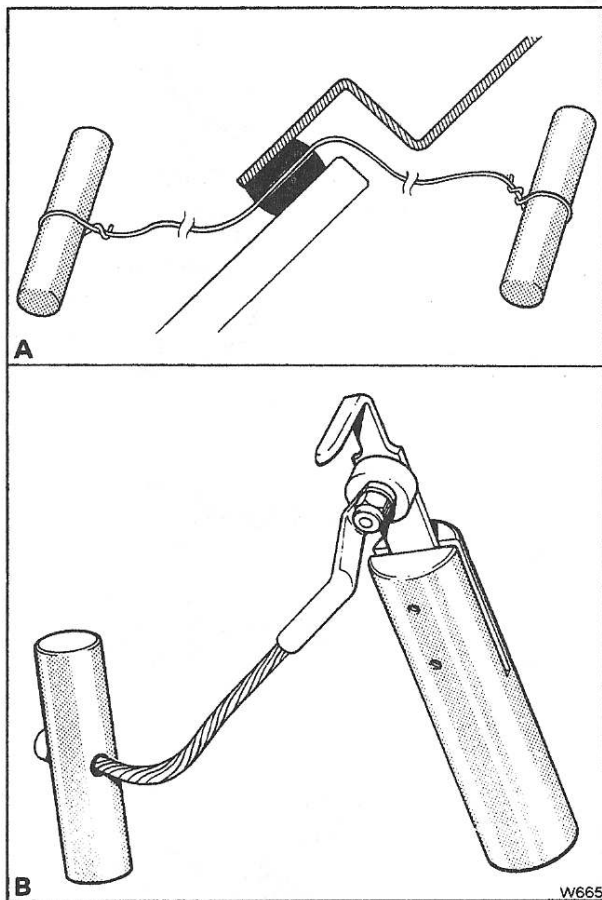

Fig. S142 Removing a windscreen bonded with Solbit (Camargue)
25. From inside the car, cut or pierce a hole through the Solbit (see Fig. S142, A). Obtain a length of strong flexible wire and thread one end of the wire through the hole in the Solbit.
26. Attach a small piece of wood to each end of the wire to act as handles (see Fig. S142, A).
Windscreen knife (see Fig. S142, B)
4. Place the new windscreen upon a sound working base with the edges of the glass protruding from the base (see Fig. S142).